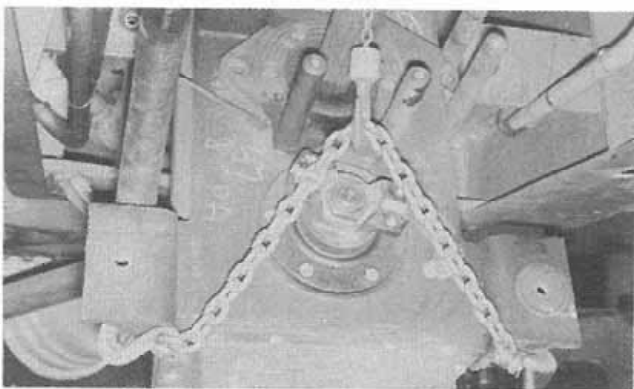

Figure 4:
4. As the unit is completely vertical (Fig. 4) and the rear hoist is supporting the whole unit, the short chain, front hoist, roller/yoke assembly and lift stand may be removed.